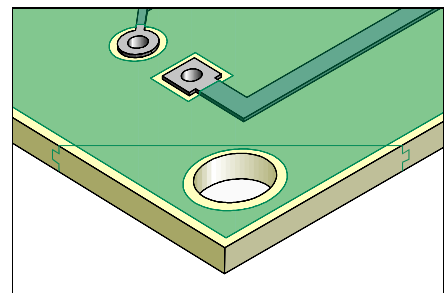

Figure 6: Complete by drilling holes, slots, etc. or adding circuitry and solder mask as required.
16. Complete by drilling holes, slots, etc. or adding circuitry as required. (See Figure 6).
17. If needed, replace solder mask or conformal coating. (See Figure 6).